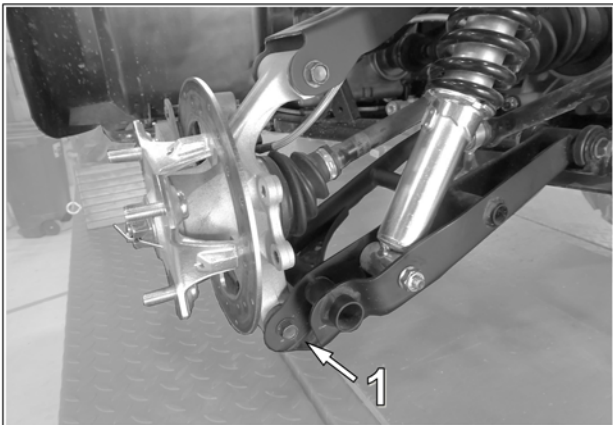

Fig. 6
5. Remove bolt (**1**) that links lower rear suspension arm to wheel hub. See Fig. 6